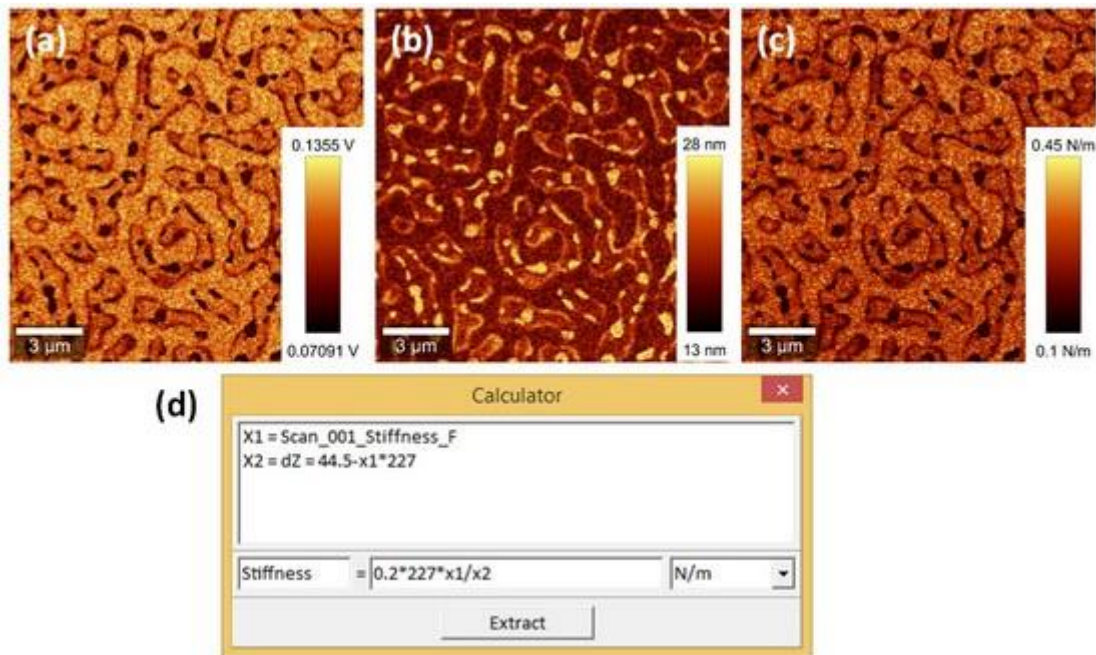

Fig. 5: Measured stiffness image (a), penetration depth (b), stiffness image evaluated using equation (14) and the calculator tool (d)
For the example shown in Fig. 5 the result is:
Equation 14 can be used directly in conjunction with the calculator tool as shown in Fig. 5 (d).
1. Select Polynomial as the category and 1 as the Polynom Order (see Fig. 5 (a)).
2. Select the fit range as shown in Fig. 5 (c) and note the width of the selected window  $\Delta_{rad}$ .
Fig. 5: Advanced fitting tool for 1st order polynomial fit (a), graph viewer which opens together with the fitting tool (b) and graph window showing the selected range of interest together with the blue fitting curve (c).